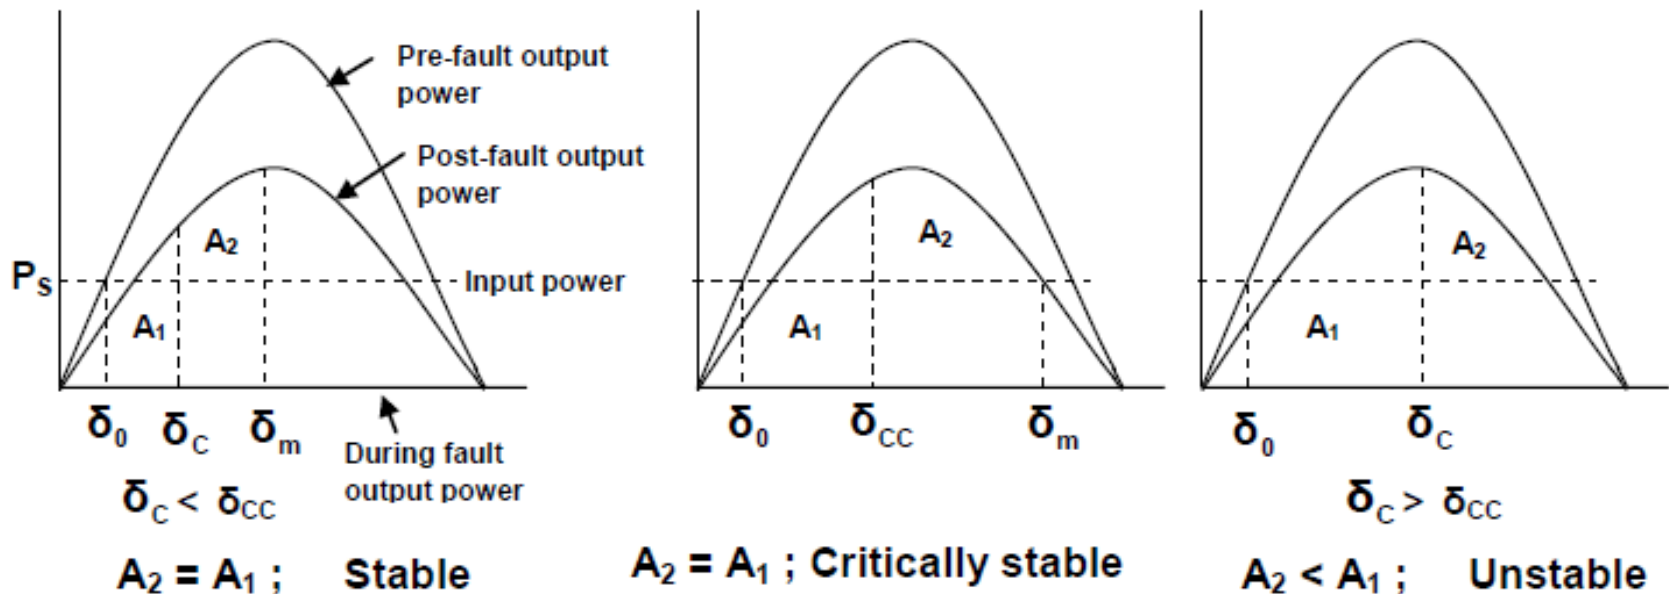

Fig. 10
- When the three phase fault occurring at one end of a double circuit line is disconnected by opening the circuit breakers at both ends of the faulted line, power is again transmitted. If the fault is cleared before the rotor angle reaches a particular value, the system will remain stable; otherwise it will lose stability as shown in Fig. 10.